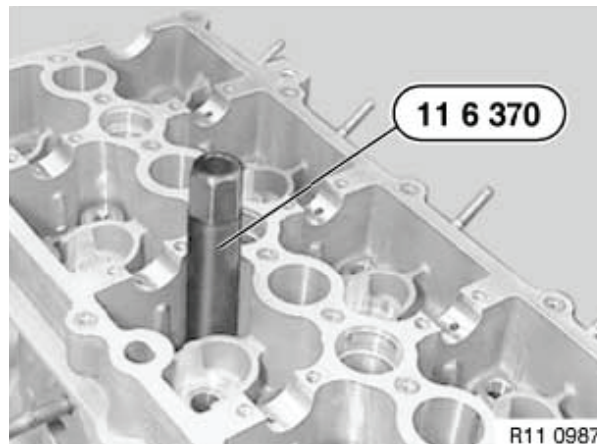

Figure 5-29
2. Press special tool OEM No. 11 6 370 onto valve stem seal and turn (**Figure 5-29**).